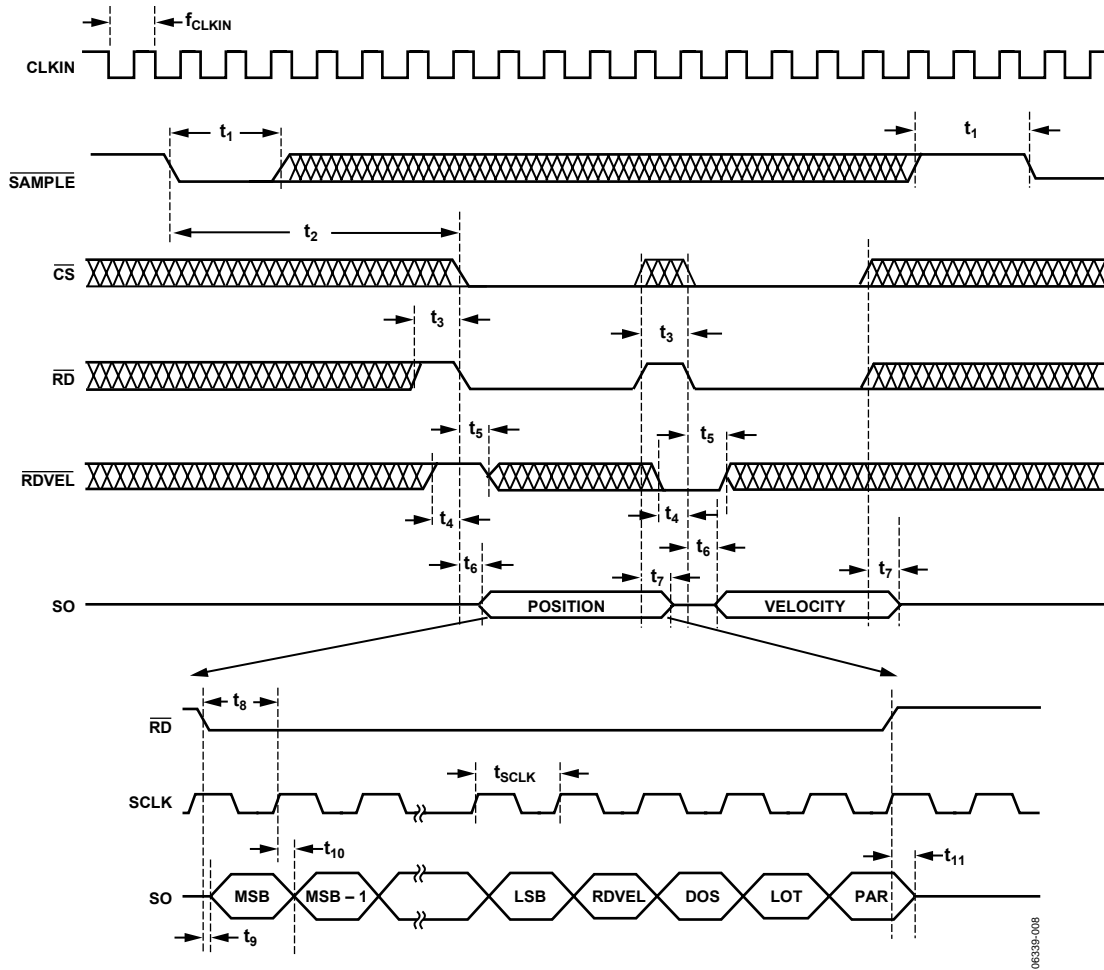

Figure 8. Serial Port Read Timing
The angular position and velocity are available on the AD2S1205 in two 12-bit registers. These registers can be accessed via a 3-wire serial interface (SO, \overline{RD} , and SCLK) that operates at clock rates of up to 25 MHz and is compatible with SPI and DSP interface standards. The serial interface is selected by holding the \overline{SOE} pin low. Data from the position and velocity integrators are first transferred to the position and velocity registers using the \overline{SAMPLE} pin. The \overline{RDVEL} pin selects whether data is transferred from the position or velocity register to the output register, and the \overline{CS} pin must be held low to transfer data from the selected register to the output register. Finally, the \overline{RD} input is used to read the data that is clocked out of the output register and is available on the serial output pin (SO). When the serial interface is selected, DB11 is used as the serial output pin (SO), DB10 is used as the serial clock input (SCLK), and pins DB0 to DB9 are placed into the high impedance state. The timing requirements for the read cycle are described in Figure 8.
The output shift register is 16 bits wide. Data is clocked out of the device as a 16-bit word by the serial clock input (SCLK). The timing diagram for this operation is shown in Figure 8. The 16-bit word consists of 12 bits of angular data (position or velocity, depending on \overline{RDVEL} input), one \overline{RDVEL} status bit, and three status bits (a parity bit, a degradation of signal bit, and a loss of tracking bit). Data is clocked out MSB first from the SO pin, beginning with DB15. DB15 through DB4 correspond to the angular information. The angular position data format is unsigned binary, with all 0s corresponding to 0° and all 1s corresponding to 360° – 1 LSB. The angular velocity data format is twos complement, with the MSB representing the rotation direction. DB3 is the \overline{RDVEL} status bit, with a 1 indicating position and a 0 indicating velocity. DB2 is DOS, the degradation of signal flag (refer to the Fault Detection Circuit section). Bit 1 is LOT, the loss of tracking flag (refer to the Fault Detection Circuit section). Bit 0 is PAR, the parity bit. The position and velocity data are in odd parity format, and the data readback always contains an odd number of logic highs (1s).